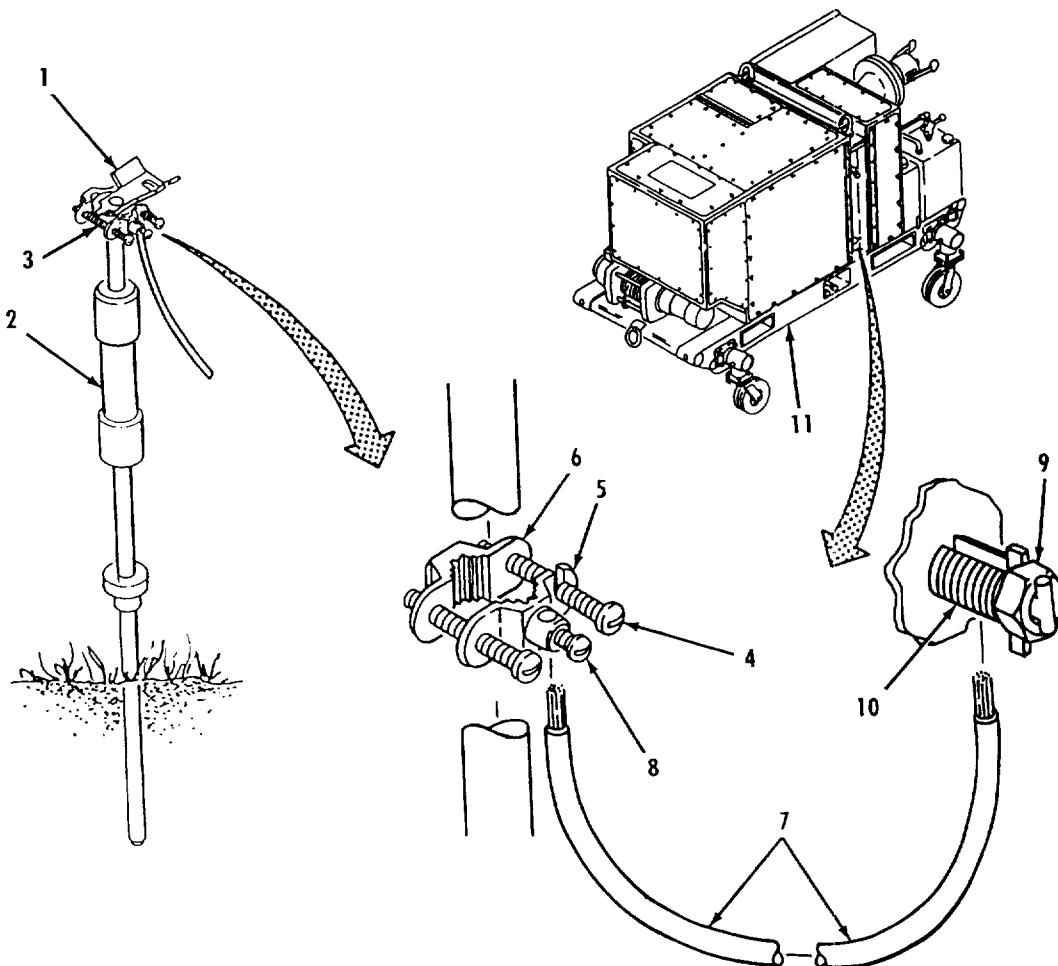

Figure 2-44. 600 GPM Pump Ground Rod Removal.
c. 600 GPM Pump Ground Rod Removal. Refer to figure 2-44.